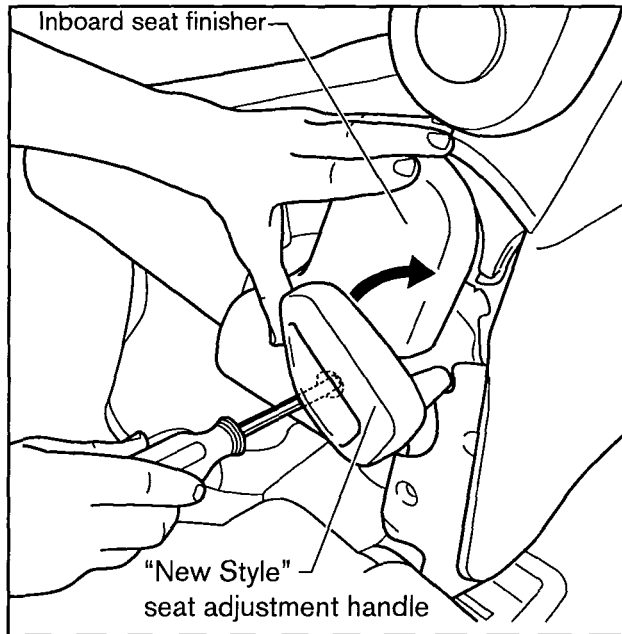

Figure 3a
Vehicles with “new style” (see Figure 3a) seat adjustment handles:
- a. Move the seat adjustment handle UP and remove the screw from the inboard seat finisher (see Figure 3a).